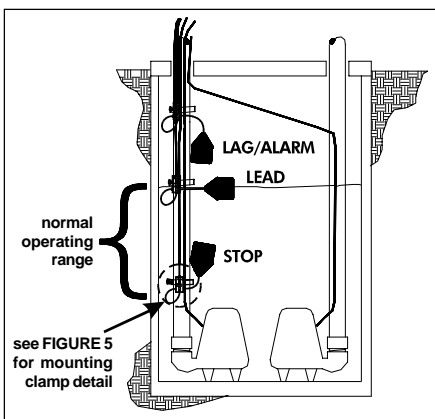

FIGURE 1 - Three float duplex
2. Determine your normal operating level, as illustrated in **Figures 1 & 2**.